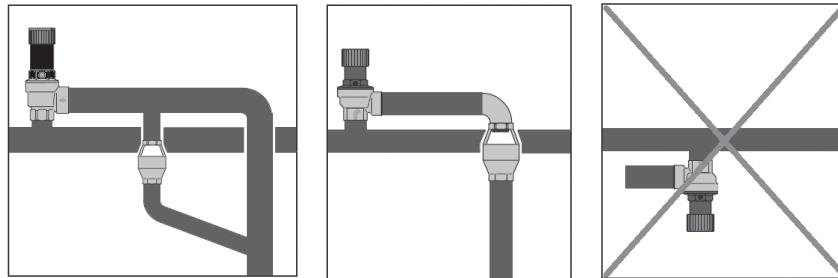

Figure 9a, b, c
- 6- **Safety valve drainage pipe.** Must be implemented in accordance with the local and European laws, standards and technical norms! It has to be angled enough to allow drainage. The connection should be open in order to keep the outlet of the safety valve open to the atmosphere. The draining system must be protected from freezing. Safety measures against burns due to the activation of valve must be taken when installing the pipe. Figure 9a, b, c